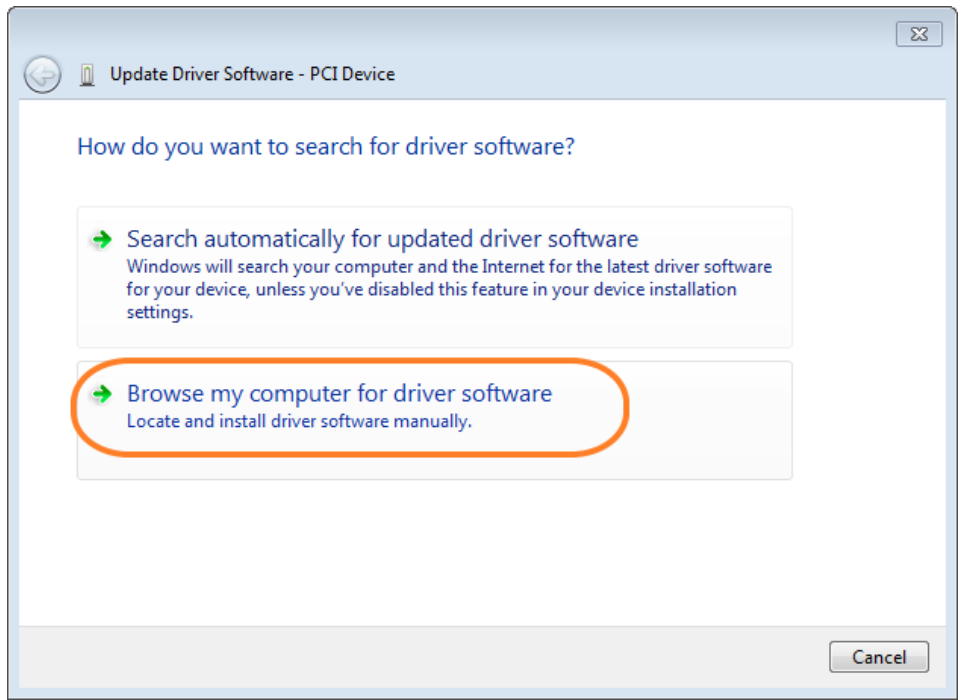

Figure 0-5 Dialog of Browse my computer for driver software
8. In the **How do you want to search for driver software** dialog, click **Browse my computer for driver software** item, as shown in **Figure 0-5**. Click “OK” and then “Exit” to close the installation program.